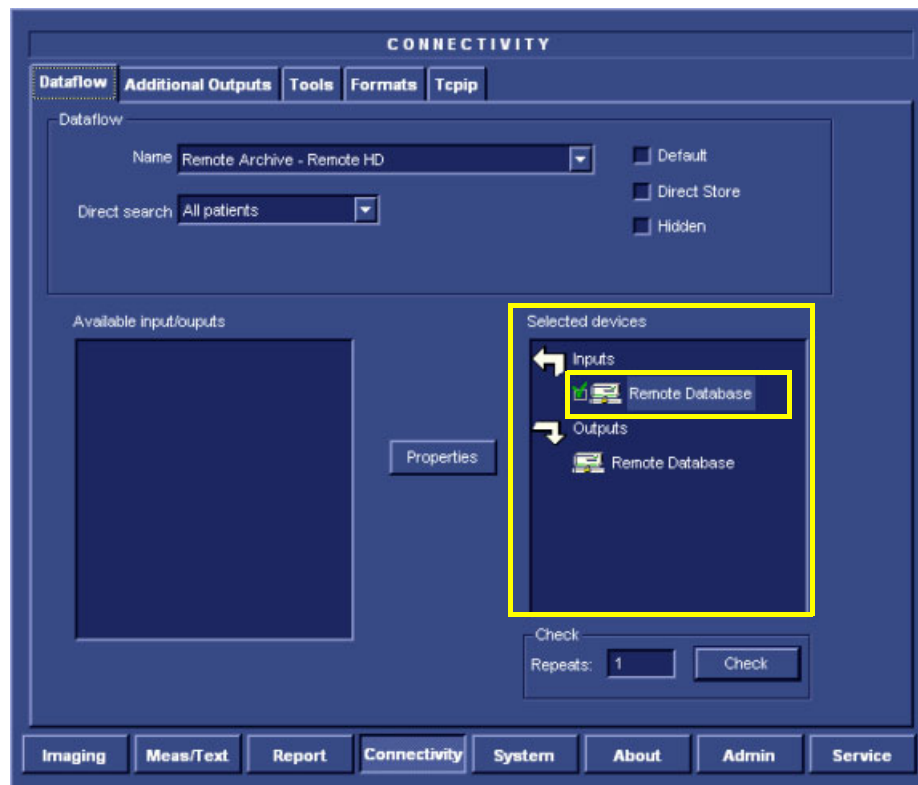

Figure 4-9 Selected Device "Remote Database" showing Successful Check
The system displays the Dataflow screen indicating that the device check has been successfully performed as indicated by the green confirmation tick - see Figure 4-9.
- 7.) Under Selected Devices (Figure 4-9), proceed to the next device (in this example "Remote Database" that is under "Outputs"), click **Check** and proceed as before.